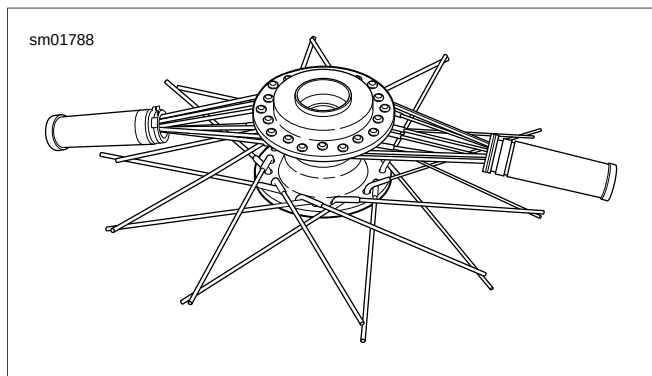

Figure 2-47. Bundling Top Spokes
6. See Figure 2-47. With all forty spokes inserted in hub, group all spokes on top flange into two bundles. Secure each group with throttle grips to keep the spokes together.